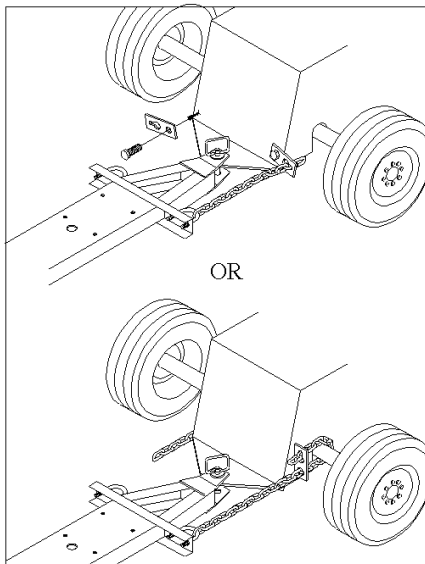

Fig. 7
7. To attach unit to tractor, align vacuum drawbar to tractor drawbar hole and drop in hitch pin (27). With vacuum unit attached to tractor, align unit to be directly behind tractor. Attach chain attached to the frame (1) to the rear housing or axle of the tractor keeping chains in line with draw plate of tractor. To attach to the rear housing it may be necessary to bolt the chain locks to the housing. To attach to axle of tractor, slip chain lock onto the chain (through round hole in chain lock), wrap chain around axle and back through chain lock. Pull chain lock snug against axle, pull chain snug through chain lock and lock chain into the chain lock. Attach loose chain in the same manner to opposite side. Attach turnbuckle (31) to end of free chain and to u-bolt (30) on frame (1) of unit. Tighten chains by turning the turnbuckle. Note: do not over tighten chains, frame of vac needs to pivot slightly for the unit to caster efficiently, but be sure the chains are tight enough not to come loose from tractor. **Fig. 7 & 8**